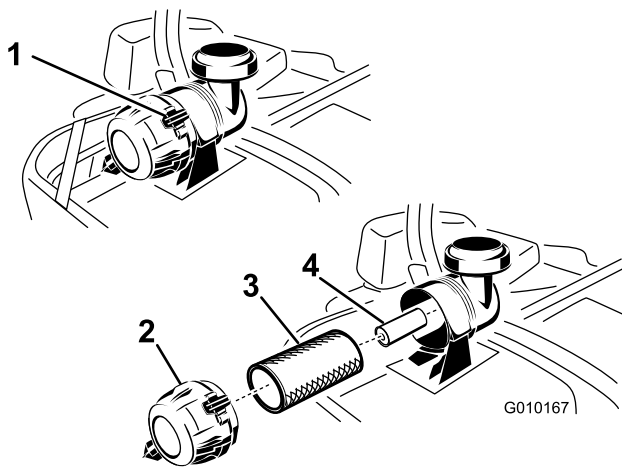

Figure 42
3. Push down to release the retaining clamps on the air cleaner and pull the air cleaner cover off of the air cleaner body (Figure 42).
5. Gently slide the primary filter out of the air cleaner body (Figure 42). Avoid knocking the filter into the side of the body.
1. Do not clean the paper filter, replace it (Figure 42).
2. If the secondary filter is being replaced, carefully slide it into the filter body (Figure 42).
3. Carefully slide the primary filter over the secondary filter (Figure 42). Ensure that it is fully seated by pushing on the outer rim of the filter while installing it.
4. Install the air cleaner cover with the breather cap down and rotate so the retaining clamps lock the cover in place (Figure 42).